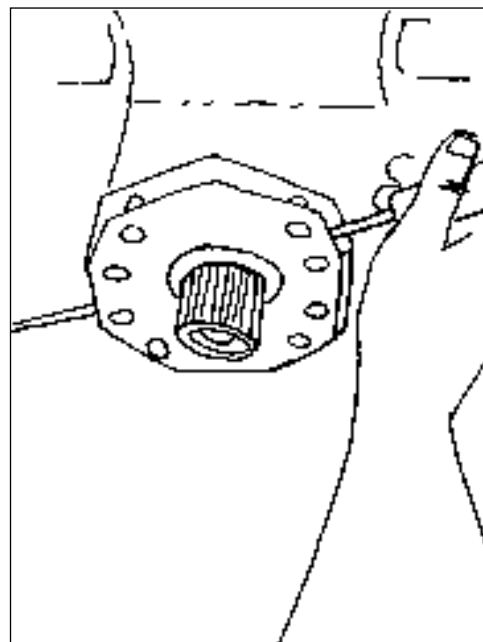

Figure 22
6. Remove the sector shaft cover. Carefully separate the sector shaft cover from the housing. (**Figure 22**).